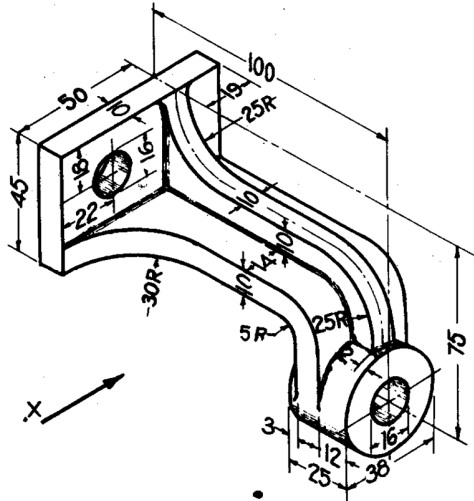

FIG. 18-51
(29) Fig. 18-51: (i) Front view. (ii) Side view from the right. (iii) Top view.